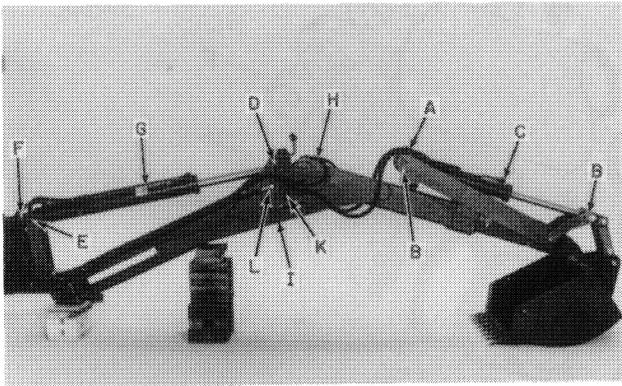

FIGURE 2-7
1. Position the backhoe as shown in Figure 2-7 with the stabilizers down, the dipper fully extended, and the bucket touching the ground with the bucket teeth parallel to the ground. Secure the blocking under the base of the boom.